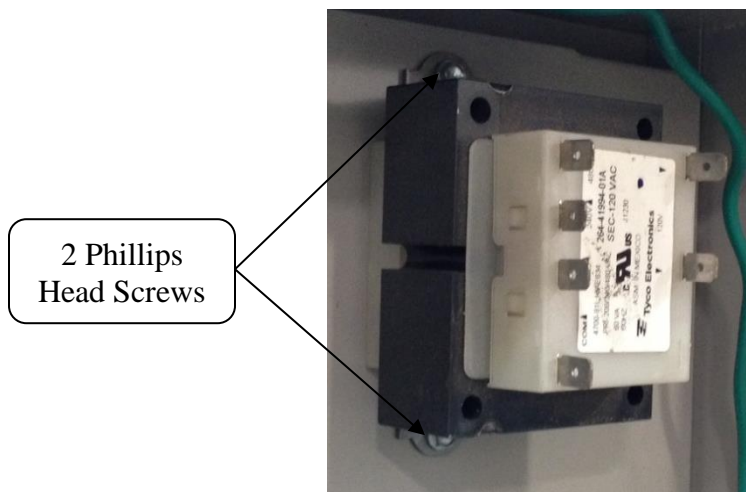

Figure 10. Transformer Screw Locations
- Remove the transformer from the control panel by removing the 2 Phillips head screws (see Figure 10).